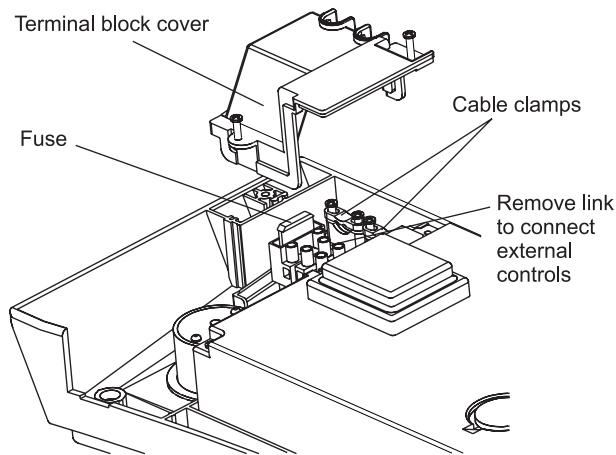

Fig. 20
4.8 CONNECT THE MAINS SUPPLY - Fig. 20
Remove the two screws securing the terminal block cover from the back of the control box (see Fig. 20). Pass the mains supply cable through the cable clamp and connect as follows:- Brown to L, Blue to N and Green/Yellow to \perp . Ensure correct polarity.